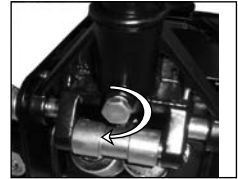

fig 4.
4. Fasten the locking screw in the handle base (4) to ensure the handle assembly is safely secured (fig.4).
5. Remove the safety clip that secures the handle base (4) in transit.